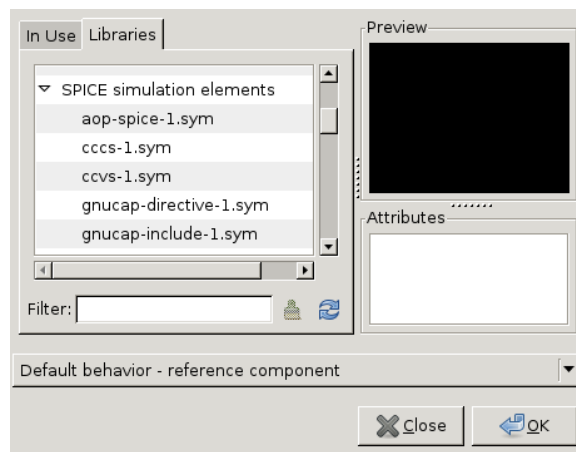

Figure 2.2. Select Component... dialog box.
- Click the “Add” menu and the “Component” menu entry, or click the symbol of an AND gate in the `gschem` tool bar. This will open a “Select Component...” dialog box such as the one in Figure 2.2.